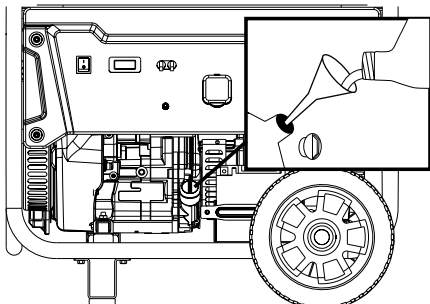

Figure 22 - Oil Fill Plug/Dipstick
5. Remove oil fill plug/dipstick (see Figure 22 below).